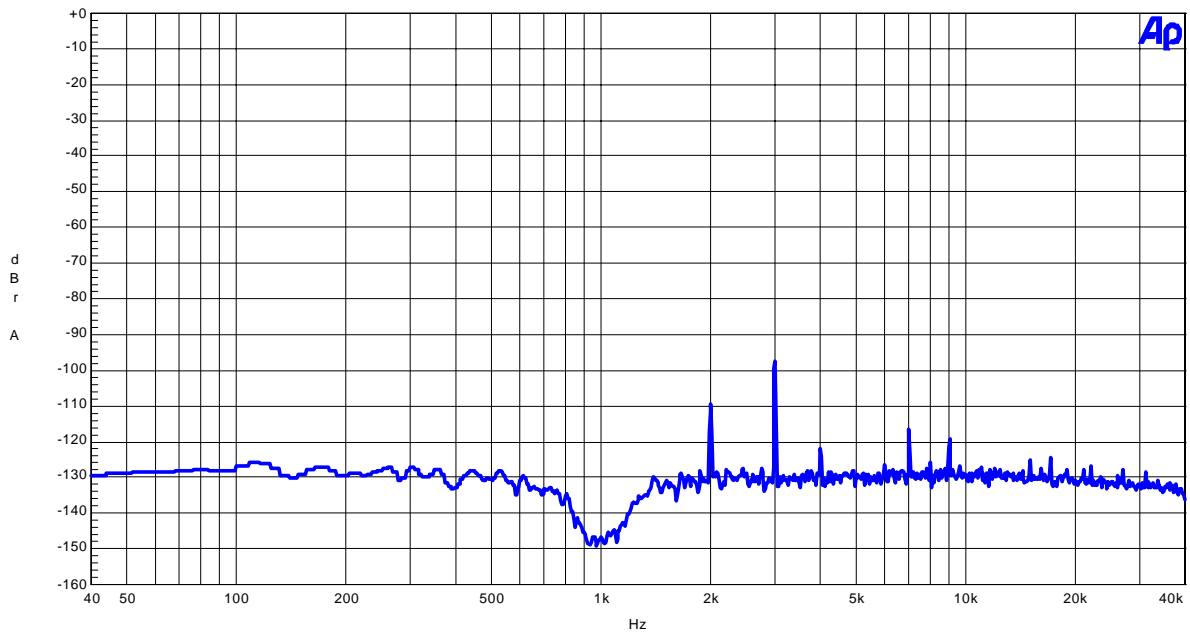

Figure 16. FFT (1kHz, 0dBFS input, Notch=ON)
- Figure 16. FFT (1kHz, 0dBFS input, Notch=ON)